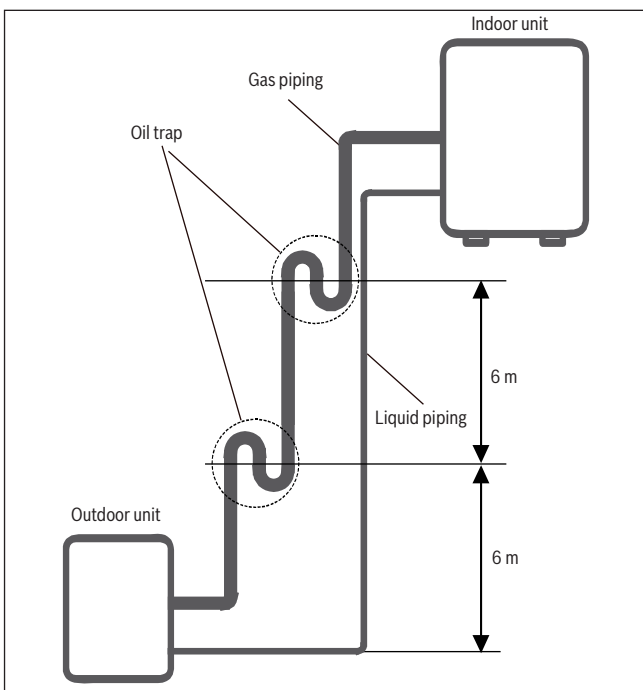

Fig. 36.
-It is recommended that vertical suction risers not be upsized. Proper oil return to the compressor should be maintained with suction gas velocity. If velocities drop below 7.62 m/s, oil return will be decreased. An oil trap should be installed every 6 m of vertical suction line riser. (See Fig. 36)